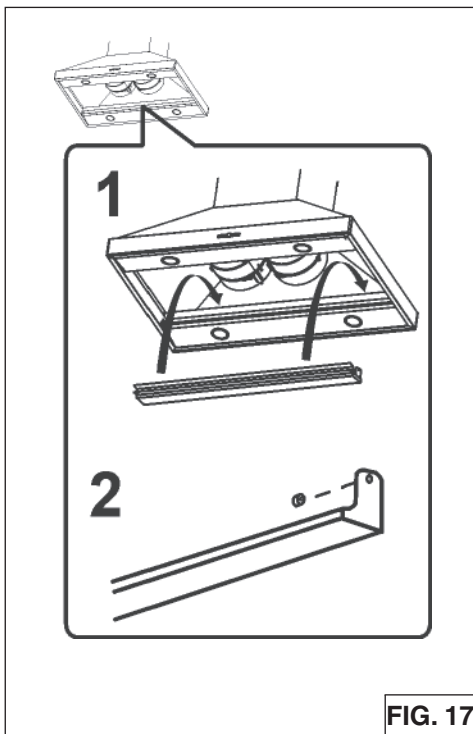

FIG. 17
2. To install the DRIP TRAY (Fig.17), lift it up and into the track on the hood. Install thumbscrews and baffle grease filters.